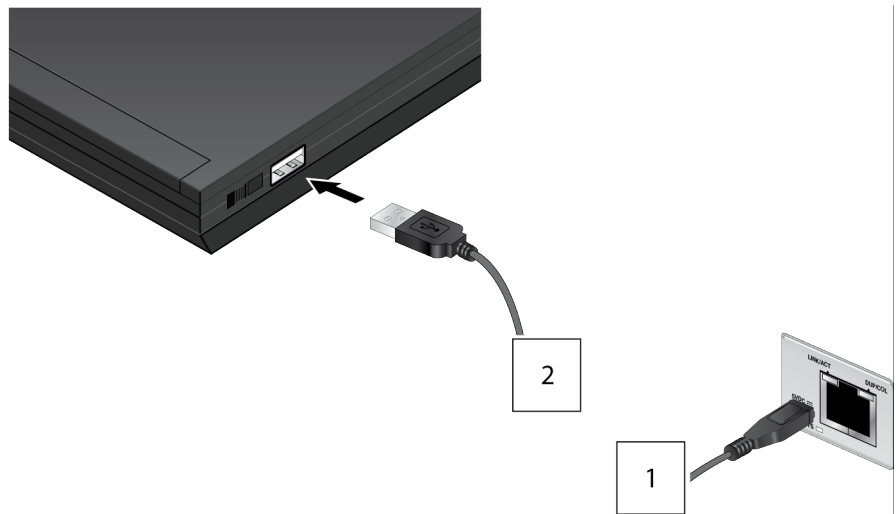

Figure 33. Connecting Power via USB Port
- Attach the other end of the USB cable to the USB port on a PC, as shown in Figure 33.